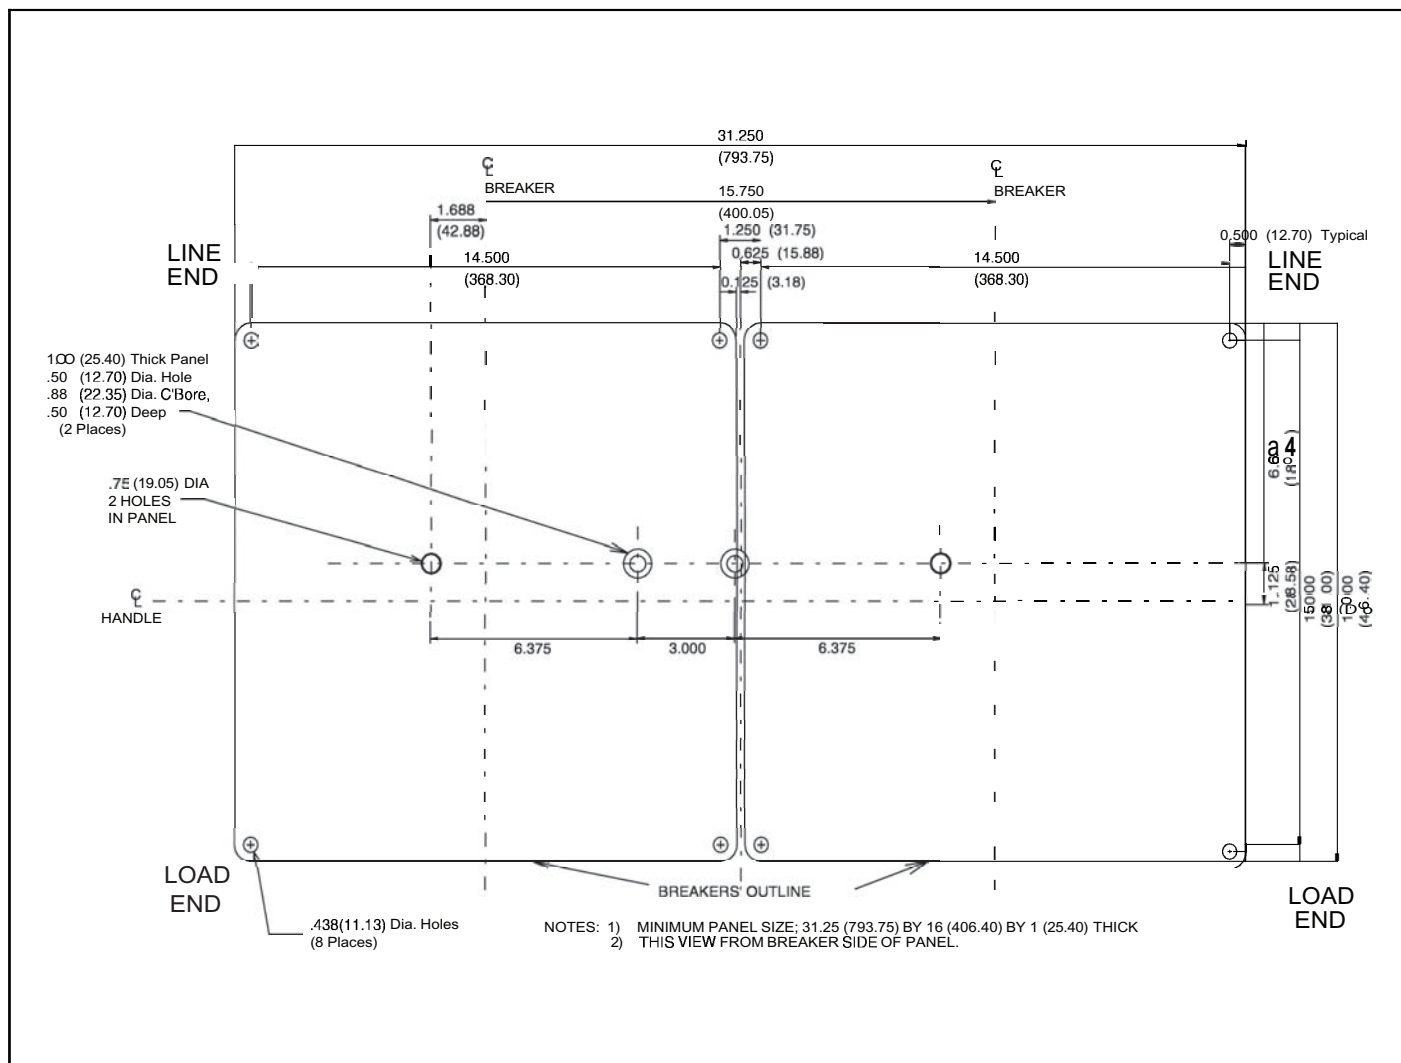

Fig 2-1. PD6 Circuit Breaker Mounting Panel Hole Sizes and Dimensions, Viewed from Breaker Side of Panel.
- 2-1. Drill the breaker mounting panel using the dimensions which are provided in Fig 2-1 for mounting the breakers and the walking beam interlock assembly. Dimensions are given in inches and (millimeters).